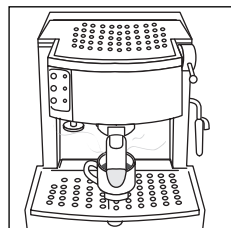
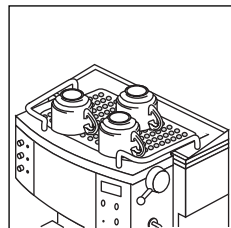

fig. 10
fig. 11
5. Place the cup or cups under the filter holder spouts (fig. 10). You are recommended to heat the cups before making the coffee by rinsing them with a little hot water or placing them to warm on the top plate for at least 15-20 minutes (fig. 11).